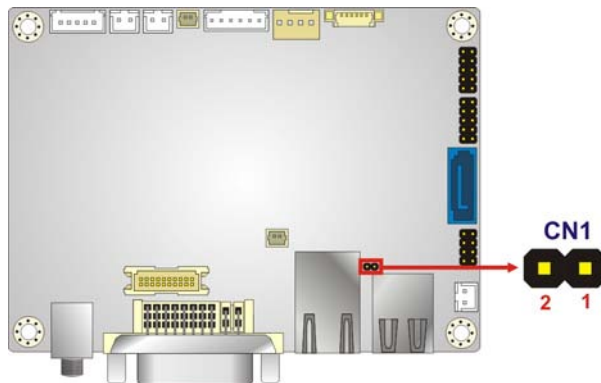

Figure 3-10: LAN LED Connector Location
- CN Location: See **Figure 3-10**